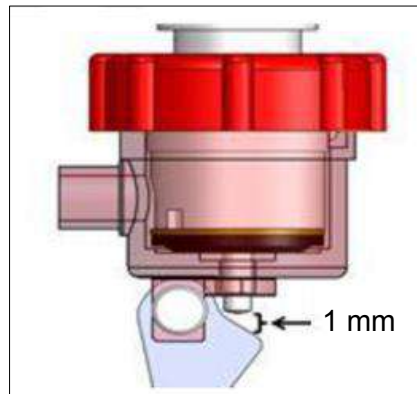

Figure 41-22: Gap between tail valve pin and lever
21. Test the functionality of the system. With the water system lever in the centre position the tail valve should be fully open with the gap between the tail valve pin and lever as shown in Figure 41-22.